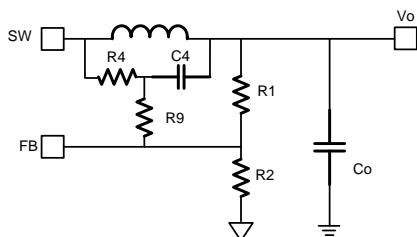

Figure 12—Simplified circuit with external ramp
C4 acts as a feed-forward capacitor to improve the transient and can be set in the range of 0 pF-1000 pF. A larger value for C4 leads to better transient, but it is more noise sensitive. Reserve room for a noise filter resistor (R9) as shown in Figure 12. The value is calculated with Equation (5).
Besides the R1 & R2 divider, the output voltage is influenced by R4 (see Figure 12). R2 should be chosen reasonably. A small value for R2 leads to considerable quiescent current loss while too large a value for R2 makes the FB noise sensitive. It is recommended to choose a value within 5 kΩ-50 kΩ for R2. Use a comparatively larger value for R2 when V_o is low and a smaller value for R2 when V_o is high. The value of R1 then is determined with Equation (4):